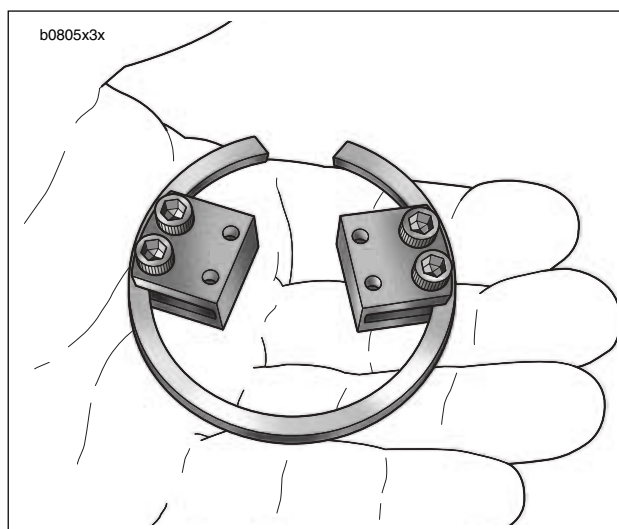

**Figure 3-79. Removing Sprocket Shaft Inner Timken Bearing (Typical)**
12. See Figure 3-79. Place flywheel assembly in FLYWHEEL FIXTURE (Part No. HD-44385). Pull sprocket shaft bearing with SPROCKET SHAFT INNER TIMKIN BEARING REMOVER (Part No. HD-44404) and ALL PURPOSE CLAW PULLER (Part No. HD-95635-46) using bolts in place of jaws. Insert a penny (or suitable coin) between shaft and claw puller to avoid damaging shaft.